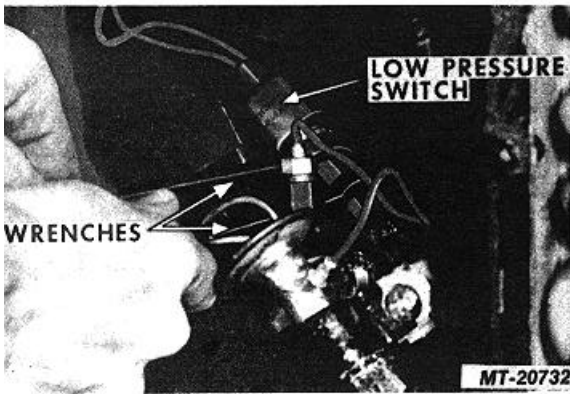

Fig. 55 Removing Low Pressure Switch
5. Using two wrenches, remove low pressure switch from adapter on evaporator outlet pipe (Fig. 55).